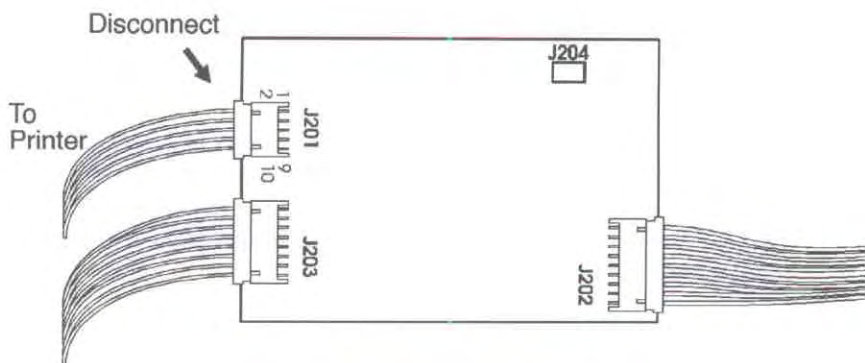

Figure 1-11. Location of the J201 Cable
5. Disconnect the printer's cable from J201 on the sensor PCA, as shown in Figure 1-11.